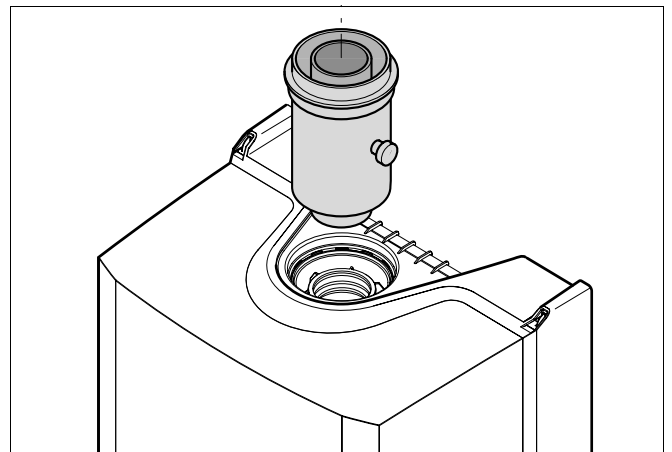

fig. 19 Vertical flue adaptor
- Fit the vertical flue adaptor (fig. 19) onto the appliance flue connector.